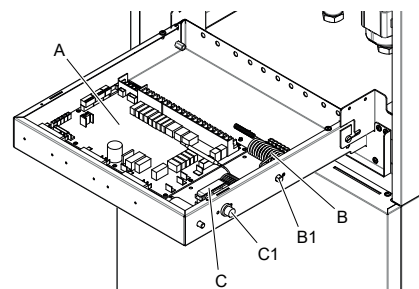

fig. 12 - internal view of the electric box
- A** Electronic hydronic board (fig. 12)
- B** Safety thermal cut-out for single phase electrical heater with manual reset button (part. B1 fig. 12)
- C** Safety thermal cut-out for three phase electrical heater with manual reset button (part. C1 fig. 12)